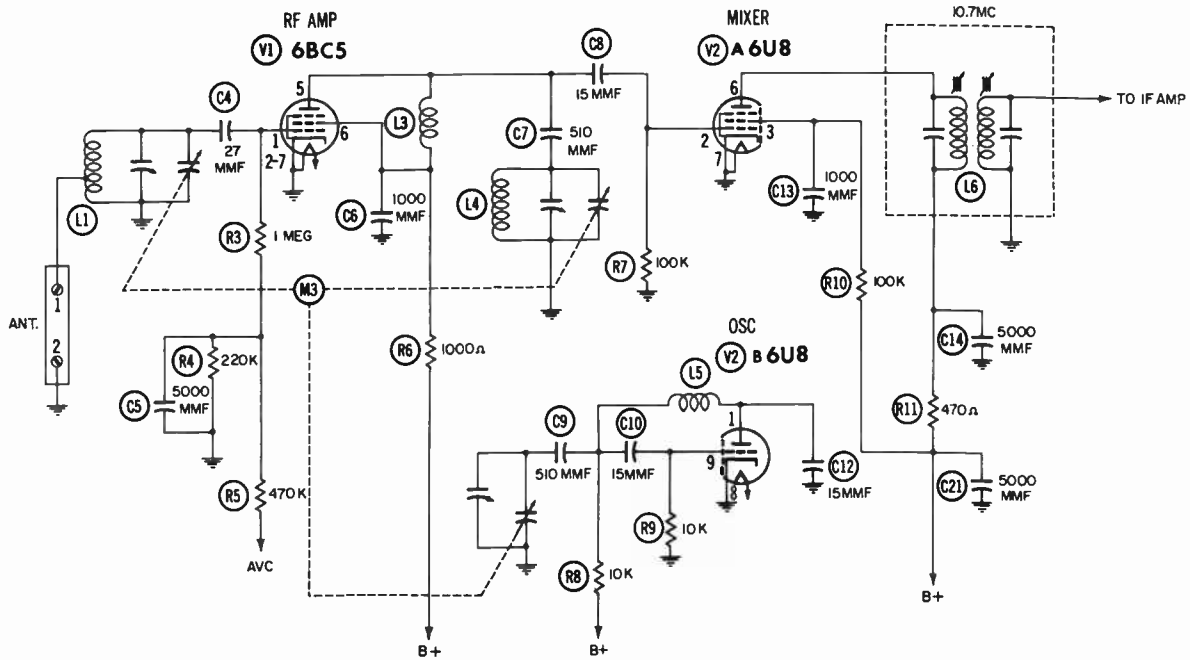

Fig. 2-9. RF amplifier, mixer, and oscillator of the Monitoradio MR-10 receiver.
In some receivers, each mixer has its own crystal-controlled heterodyne oscillator. In others, one of the oscillators serves two mixers. Crystal-controlled oscillators are used in all fixed-tuned receivers because their operation is more stable. Tunable oscillators are used only in receivers designed for hand tuning across a band. One such receiver is the Monitoradio MR-10, which tunes from 152-174 mc. The RF amplifier, mixer, and oscillator are shown in Fig. 2-9. A single conversion superheterodyne circuit is used.
The local oscillator for the first mixer produces an unmodulated RF (CW) signal which beats with the received signal to form the first intermediate-frequency signal. It is important that the local-oscillator signal be stable in frequency. Any frequency variation can cause loss of sensitivity, as well as unwanted reception of signals on an adjacent channel. Because of the frequency-stability requirement, the local oscillator is always crystal-controlled, except in such tunable receivers as the Monitoradio MR-10. (The variable local-oscillator circuit of this receiver was shown in Fig. 2-9.)